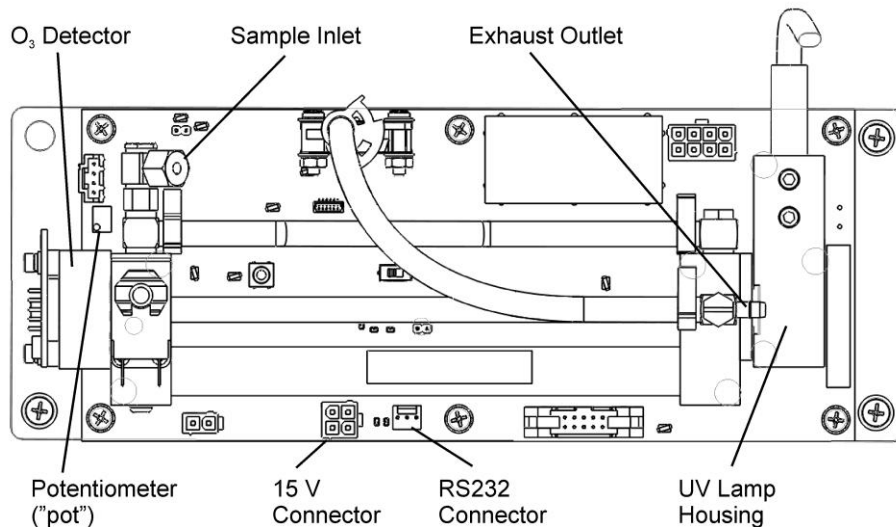

Figure 11-7: O₃ Sensor Detail
4. Unplug the two-pin valve connector from the sensor PCA (Figure 11-7).
7. Remove the two (2) mounting screws using a #2 Phillips screwdriver. See Figure 11-7. Note that there are four screw heads visible on the top of the valve body, only two (2) of these should be removed.